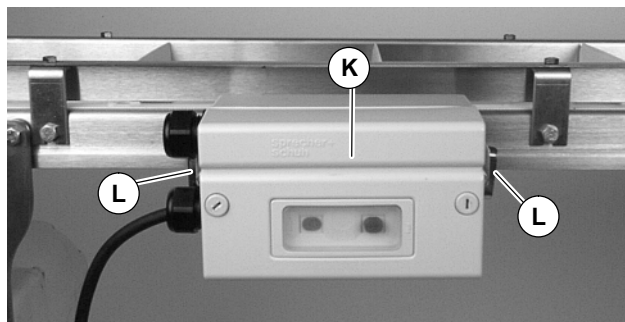

Figure 13
- Attach motor starter (K of Figure 13) to clips with screws (L). Tighten to 10.4 Nm.